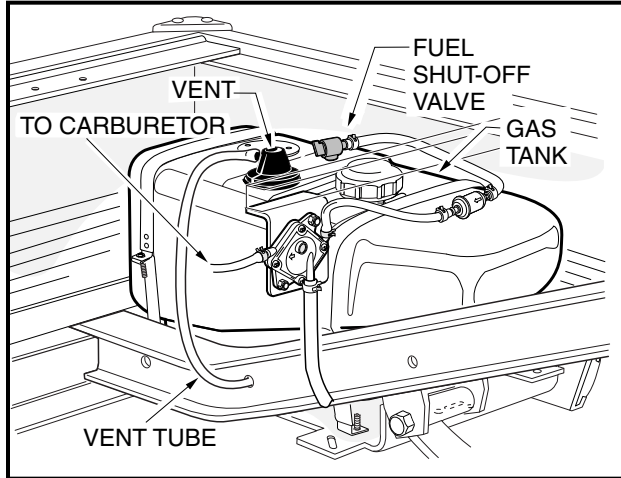
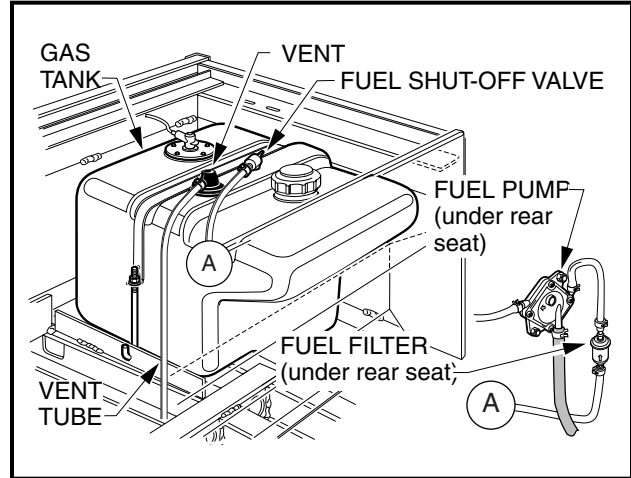

Figure 3-4 Turf-CA 272 Fuel Tank
Figure 3-5 Carryall 472 Fuel Tank
9. Disconnect vent tube from fuel tank vent (**Figure 3-4, Page 3-4 or Figure 3-5, Page 3-4**).
2. Remove plug from vent tube and connect to tank vent (**Figure 3-4, Page 3-4 or Figure 3-5, Page 3-4**).